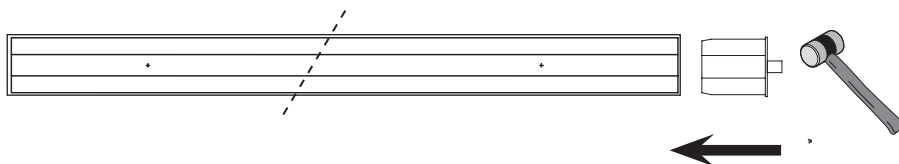

Fig. 11
The cap (Fig. 1 ref. 5) must be installed directly on the fixed roller (Fig. 1 ref. 3). See figure 11